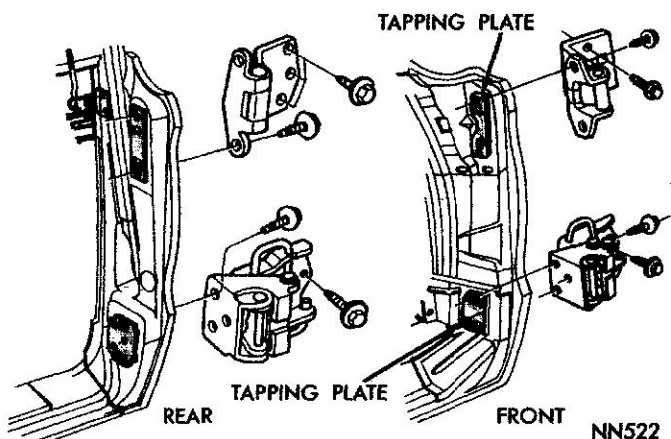
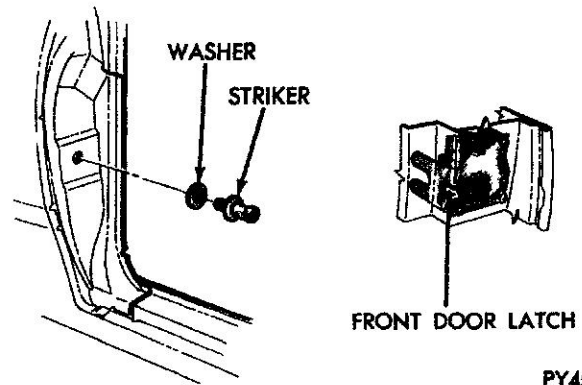

Fig. 13—Door Hinges
Fig. 14—Door Latch Striker Adjustment
Adjustment of the door can be made at either the pillar or door hinge halves (Fig. 13).
DOOR LATCH STRIKER ADJUSTMENT (Fig. 14)
- (1) Check all doors for contour and spacing, and all door lock strikers for proper relation to locks. Fit and readjust as follows:
- (2) Open doors.
- (3) Loosen door latch striker (Fig. 14).
- (4) Loosen the necessary hinge bolts to suit each door as follows: (Fig. 13).
- half) (2) upper and (3) lower bolts.
- (5) Readjust and fit doors to door openings for alignment of contour lines and belt surfaces.
- (6) Secure previously loosened hinge bolts (Fig. 13).
- (7) Readjust door latch striker.
- (8) Tighten and retorquer striker to 40 to 60 foot-pounds (Fig. 14).
- (9) Close doors.